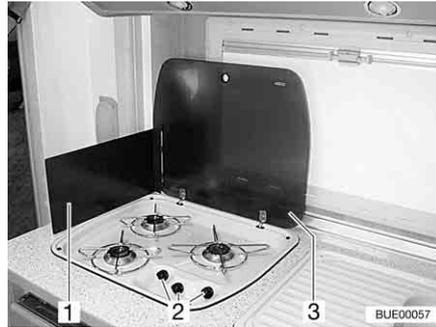

Fig. 152 Gas cooker
- Open the gas cooker lid (Fig. 152,3).
- Fold out or set up the flame protection (Fig. 152,1), depending on the model.
- Turn the control knob (Fig. 152,2) on the burner you wish to use to the ignition position (large flame).